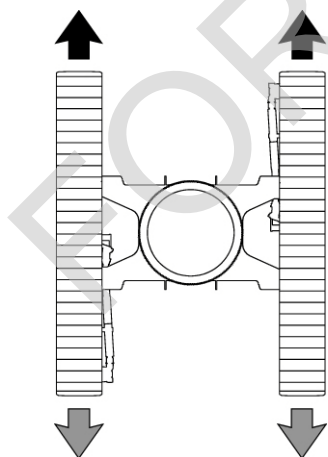

Figure 3-25. Travel Straight
- To TRAVEL STRAIGHT (Figure 3-25), move both of the crawler handles the same amount in the desired direction from the neutral position.